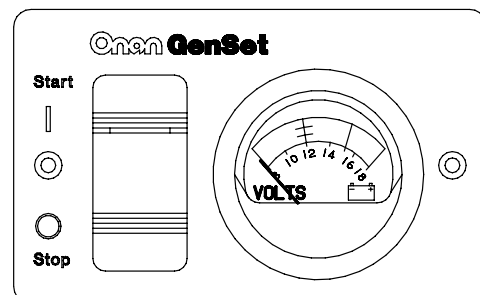

FIGURE 5-6. REMOTE SWITCH / DC VOLTMETER
- Remote start/stop switch with status indicator light and DC voltmeter (Figure 5-6).